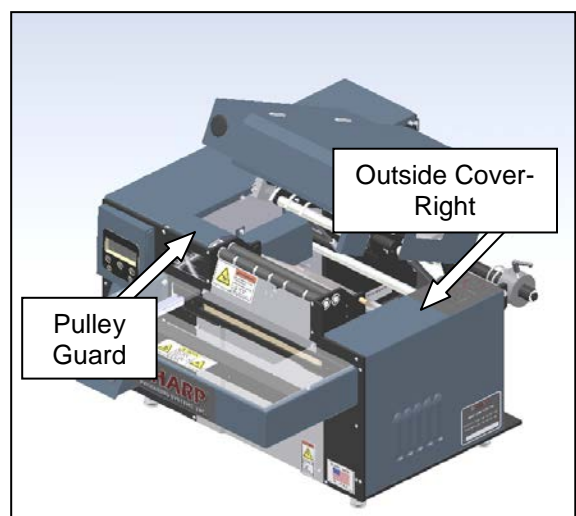

Figure 3-174. Guard Identification
- Remove the pulley guard and the outside cover-right (Figure 3-174).